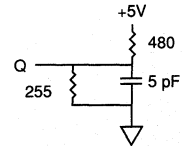

Fig. 2 OUTPUT LOAD EQUIVALENT
6. t_{HZCE} , t_{HZWE} and t_{HZOE} are specified with CL = 5pF as in Fig. 2. Transition is measured \pm 500mV from steady state voltage.